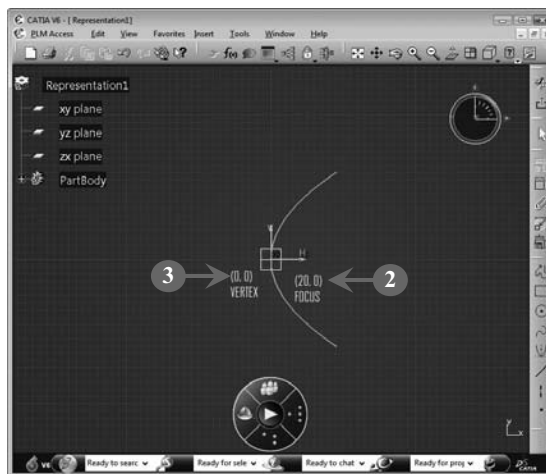

FIGURE 2.45
2. *Specify* a coordinate that serves as the focus of the parabola. In our case, the coordinate is specified at (20, 0) in the Sketcher workbench (**Figure 2.45**).
3. *Draw* the parabola through the point (0, 0), as shown in Figure 2.45: